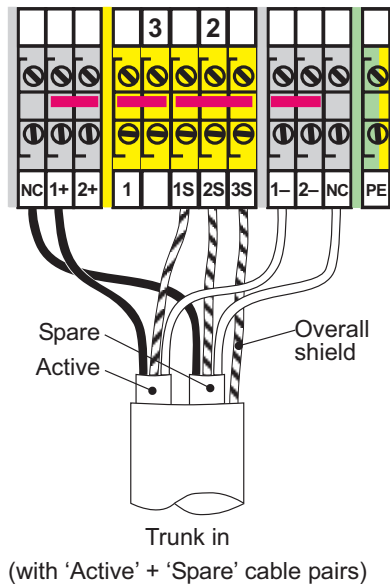

Figure 4.5 - 'Trunk In' with Active & Spare cable pairs
- c) Connect the prepared ends of the fieldbus trunk cable(s) into the appropriate '+', '-', and 'S' terminals, shown in Figure 4.5, and tighten the screw terminals to a recommended torque of 0.6 Nm.
Note: Figure 4.5 shows the screw-terminal ‘-PS’ enclosure option, but the ‘-PC’ cage-clamp terminal arrangement is similar.